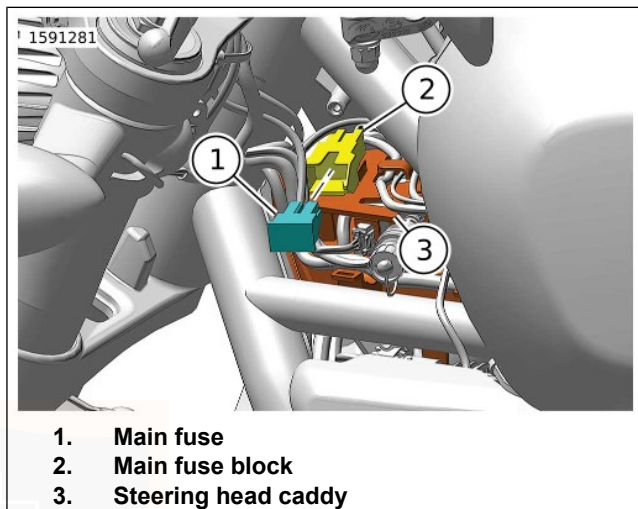

Figure 72. Main Fuse - Location
3. Remove main fuse block (2) from steering head caddy (3).
4. Figure 72 Remove main fuse (1).
1. Figure 72 Install main fuse (1).
2. Install main fuse block (2) into steering head caddy (3).